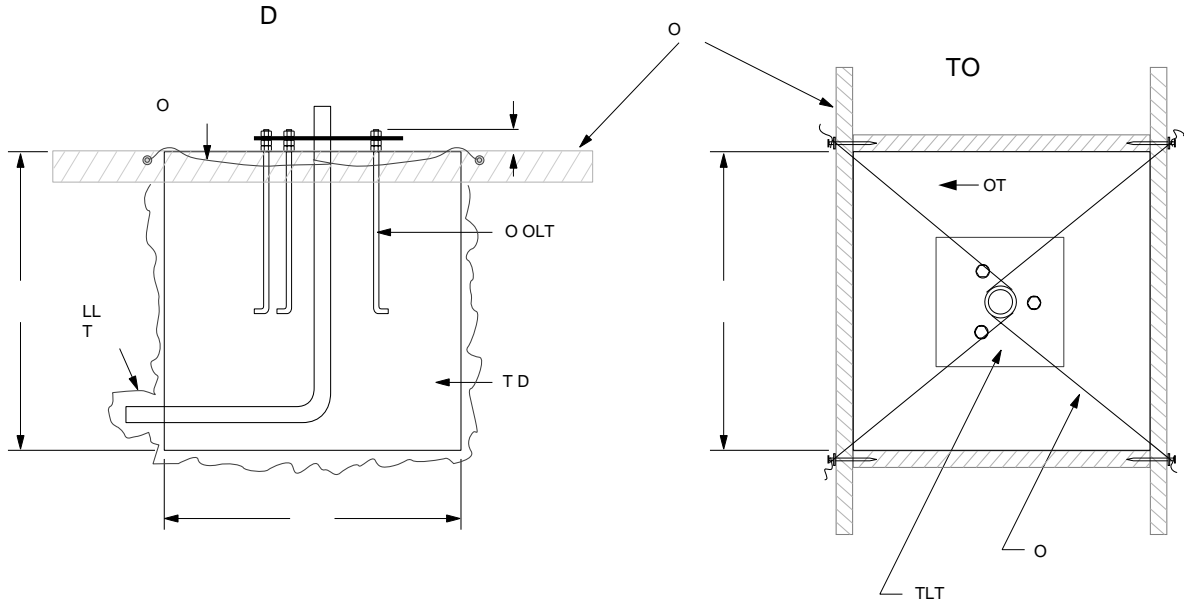

FIGURE 2.1-2. TLX106 Tower Base Installation
1. The TLX106 Tower attaches to a user supplied concrete foundation constructed as shown in Figure 2.1-2.